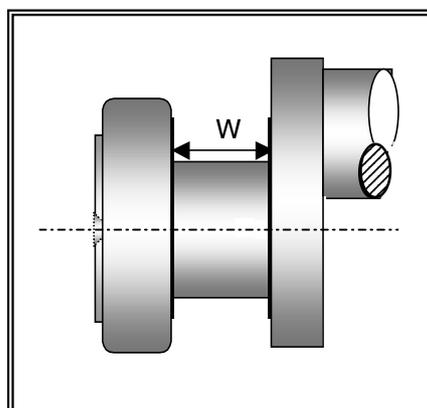

Fig.9-8
- Check the width (W) of No.1 locating journal where the thrust washer contact. If the width exceeds the prescribed limit, machine the faces of the thrust journal's to the next over size. Fig.9-8